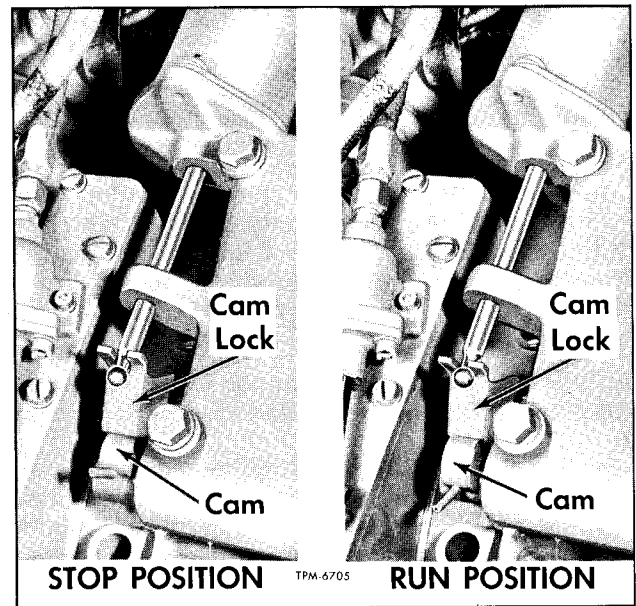
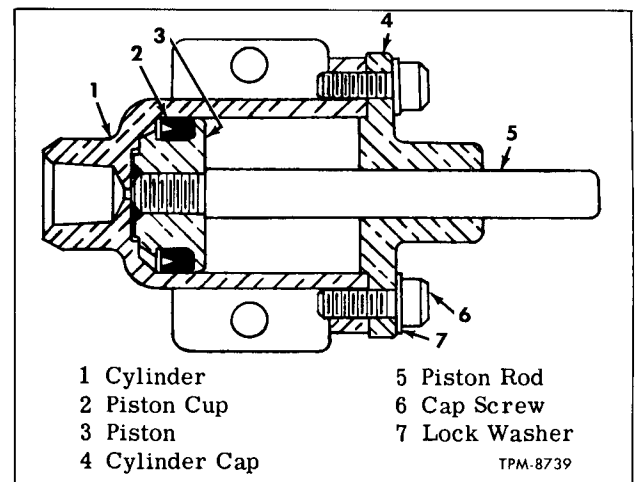

Figure 4—Emergency Stop mechanism at Blower Housing
Figure 8—Engine Stop Air Cylinder
Emergency stop solenoid assembly is installed at engine blower housing (fig. 4) and releases a choke valve to shut off air and stop engine in case engine cannot be stopped by normal means.
2. Place spring (7) in counterbore in plunger, then insert plunger into place in case and coil assembly. Slide plate (5) with gasket (4) on solenoid rod and bend tangs on case to hold plate (5) in place.
3. Insert plunger rod through guide on blower housing, and install two mounting bolts. Engage cam lock with plunger rod and bolt lock to blower housing. Attach wire to terminal (1). Solenoid and mechanism is installed as illustrated in figure 4.
NOTE: Cam (fig. 4) must be set in "run position" before engine can be started.
Engine shut-off air cylinder (fig. 8) is mounted on engine governor cover with piston rod aligned with shut-off lever on governor shaft (fig. 4). When "MASTER" control switch is turned to "OFF" position, the engine stop solenoid valve on engine compartment bulkhead panel is de-energized and spring moves valve plunger to close exhaust passage and open air inlet passage in valve. With air pressure applied to shut-off air cylinder the piston pushes rod out against governor lever and moves engine injector racks to no-fuel position, thereby stopping engine.